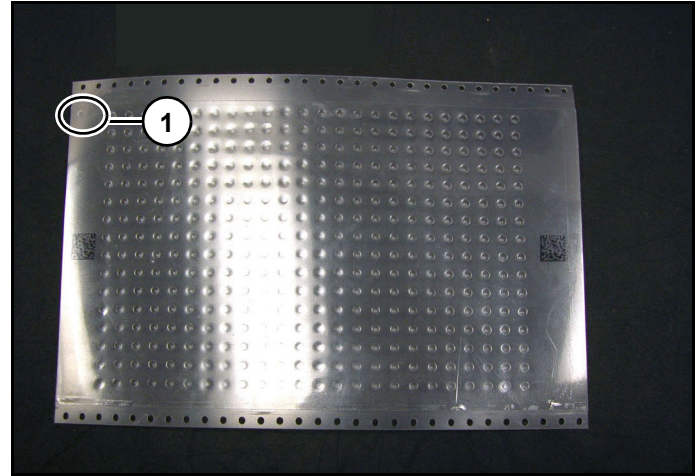
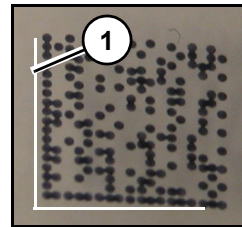

Figure 7
Figure 8
Well A1 is situated on top left corner of Array Tape when it is loaded. Punch hole (1) (Figure 7) denotes A1 well. "L" (1) (Figure 8) outlining outside of 2D code will be positioned on bottom and left edges of 2D code.